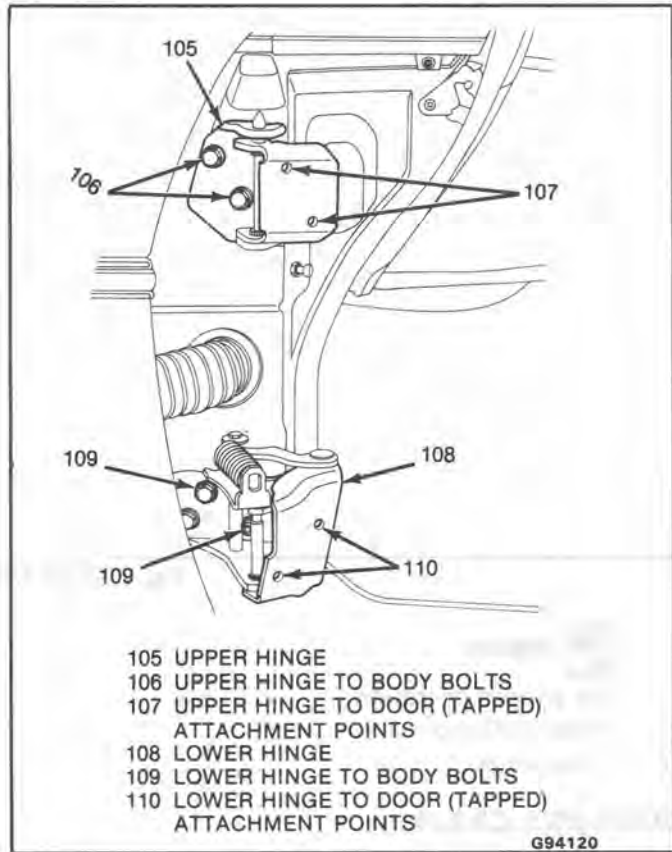

Fig. 29-Door Hinges
### ↔ Remove or Disconnect (Figure 29)
### → Install or Connect (Figure 29)
**Install or Connect (Figure 29)**